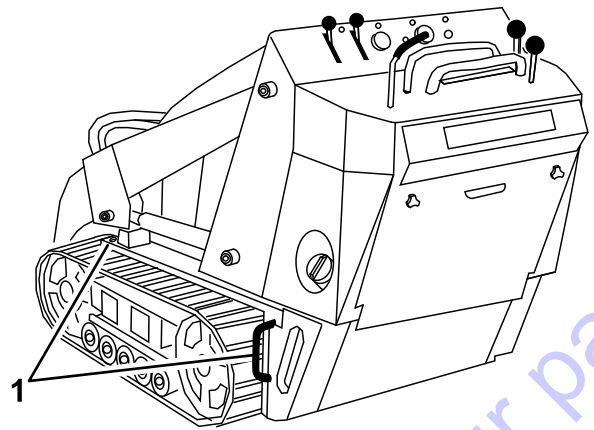

Figure 20
8. Use the metal tie-down loops on the machine to securely fasten the machine to the trailer or truck with straps, chains, cable, or ropes (Figure 20). Refer to local regulations for tie-down requirements.
You can lift the machine using the tie-down/lift loops as lift points; refer to Figure 20.